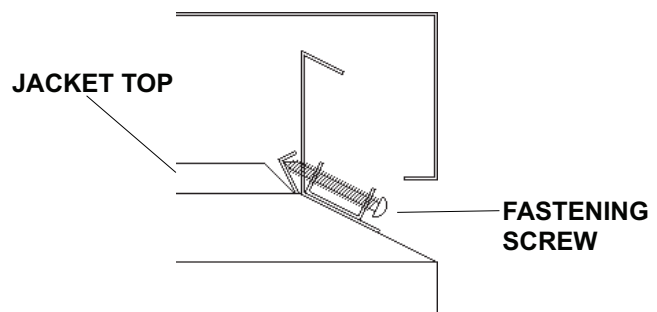

Fig. 8: Installing Outdoor Top Detail—Models 514-824
2. Tighten the (4) screws (as indicated in Fig. 8) until they come in contact with the unit jacket top, then evenly tighten all (4) screws to secure to unit.